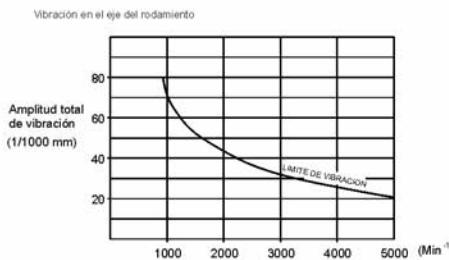

Fig. 3
(1) When great variations in pressure, flow rate, motor current, vibrations and abnormal noise are detected, these may be symptoms of breakdown. Check "Breakdown and Remedies for Action" (Table 2). It is recommended to note the daily operation conditions in order to detect any breakdown symptom.
(2) Shaft sealing by mechanical seal does not produce any water leakage. If it occurs, mechanical seal must be replaced.
(3) Fig. 3 shows the nominal values of vibration in the case of installation and work on the pipes being properly carried out.